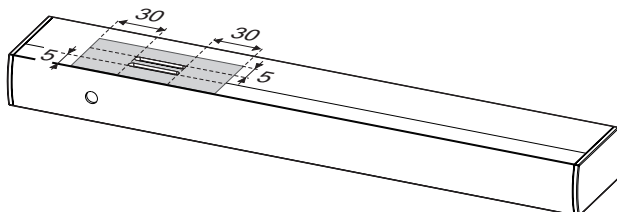

Fig. 5.4.1.1
- The area defined in Figure 5.4.1.1 must be kept free. Observe distances and specifications in section 3.5.2.